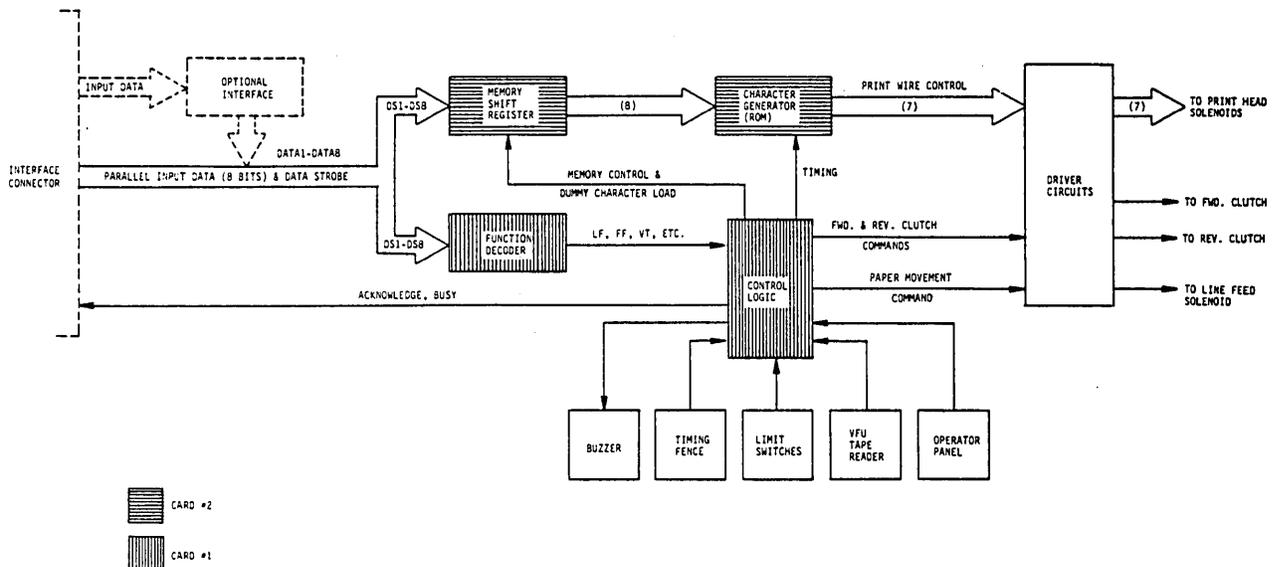

Figure 4-1. MODEL 101A FUNCTIONAL BLOCK DIAGRAM
4.1 INTRODUCTION (Figures 4-1 and 4-2)
A basic block diagram of the 101A printer and a flow chart of the over-all printer operation are contained in Figures 4-1 and 4-2.